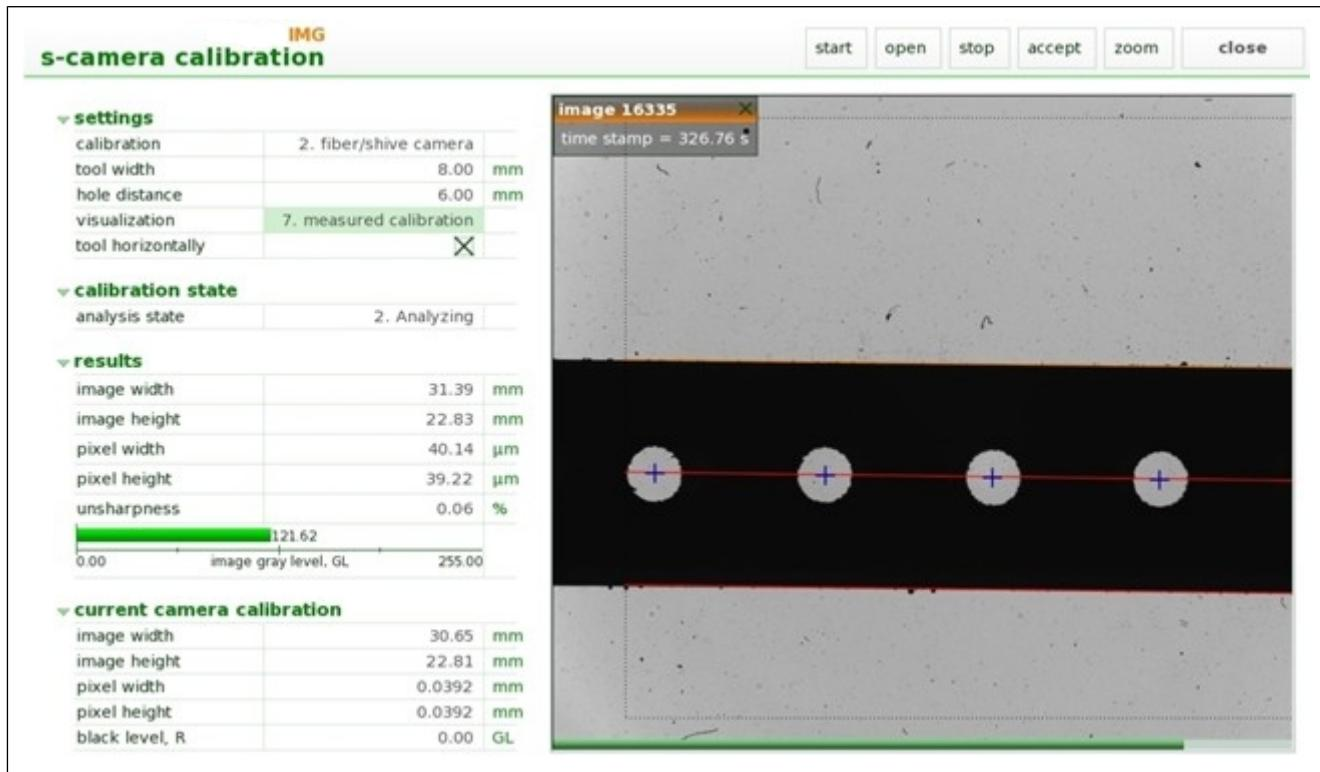

Fig. 20. "Camera calibration" window.
3. Select "IMG" → "Fiber" → "Camera" → "Calibration" (Fig. 20) and make sure that "Tool width" = 8 mm and "hole distance" = 6 mm.